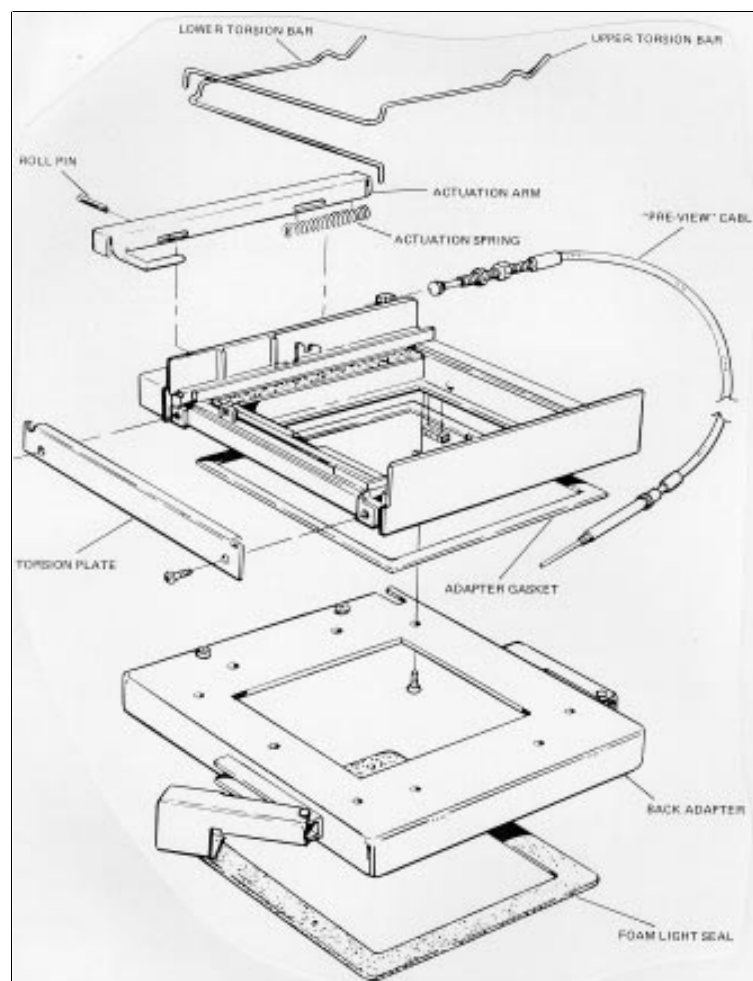

Figure 5-13. Disassembly of Fixed Head Camera Back
- 1) Loosen the hex nuts on the "pre-view" cable (figure 5-13) and release cable from the camera back housing.
- 1) Remove the two Phillips-head screws holding the torsion plate (figure 5-13) and remove the torsion plate.